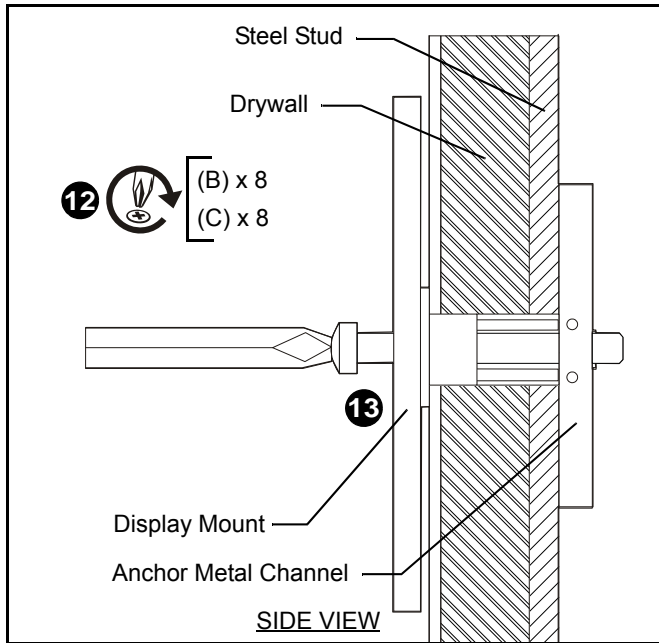

Figure 7
11. Place mount over anchors and align mounting holes in display mount with holes in anchors. (See Figure 7)
12. Place flat washer (B) onto Phillips pan head screws (C).
13. Insert Phillips pan head screws (C) with flat washer (B) through mounting hole in display mount and into anchor (D) and tighten until flush against mount. DO NOT overtighten! (See Figure 7)